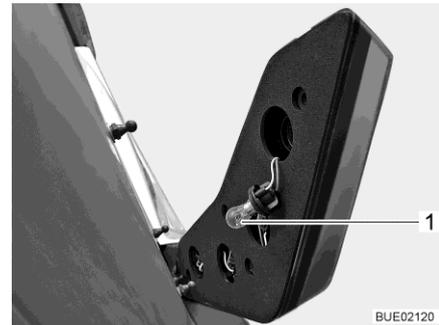

Fig. 292 Rear light
- Reach into the hole on the back of the housing. Turn and pull holder (Fig. 292,1) out (bayonet fitting). The figure shows the brake light as an example.